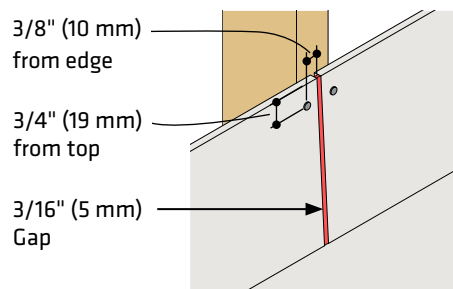

Figure 4b
- If sealant (caulking) option is selected**, seal gap at butt joints with a high-quality exterior sealant meeting ASTM C920, minimum Class 25. (Figure 4b and 6a)